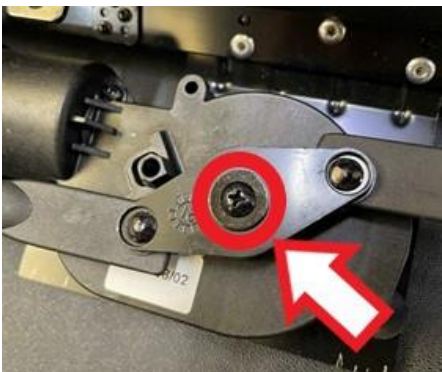

Figure 7
- Referring to Figure 7 - Remove the rotator plate fixing (2.5Nm)